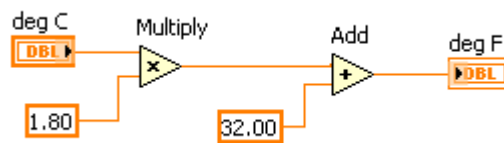

Figure 3.6
6.  Use the Wiring tool, shown in pg 64, to wire the icons as shown in Figure 3.6.